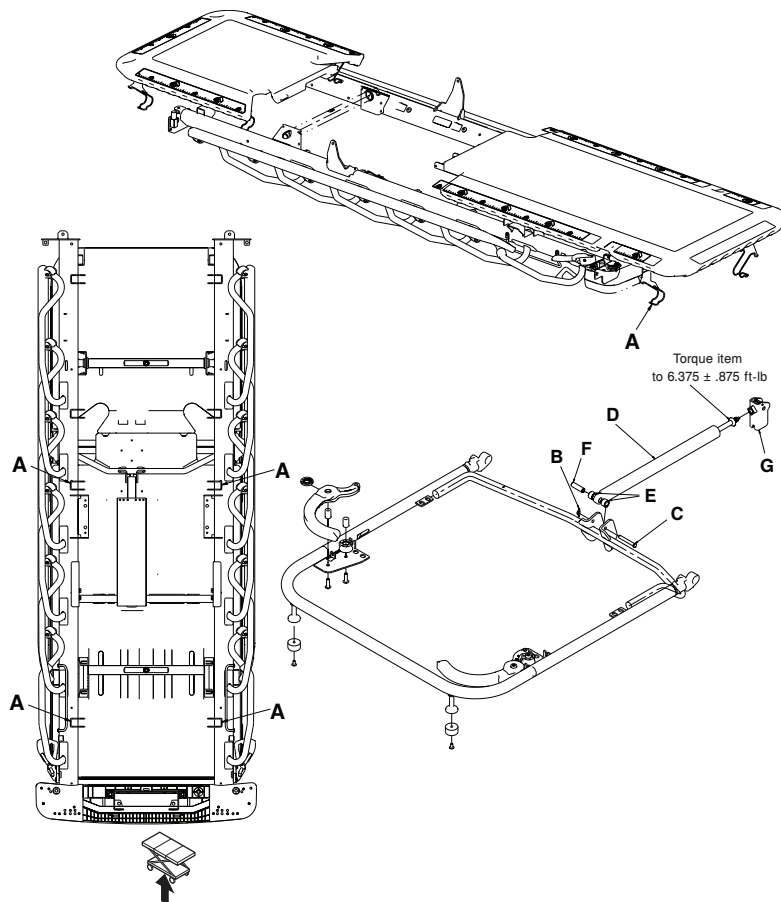

Figure 59 – Fowler gas cylinder replacement, Prime X option
6. Unclip the four spring clips (A) (below the litter frame) that secure the foot skin to the foot frame (Figure 59).